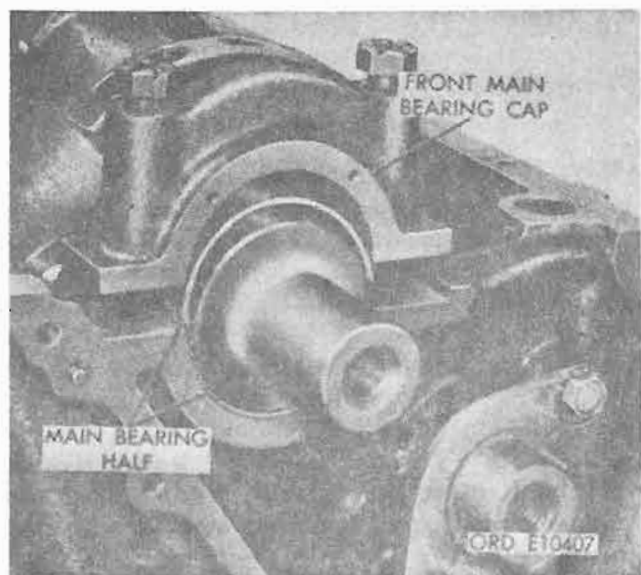

Figure 4-113. Main bearing cap and bearing halves.
c. **Main Bearing Caps and Bearing Halves.** Remove three main bearing caps with bolts in place (fig. 4-113). Keep bearings with caps.